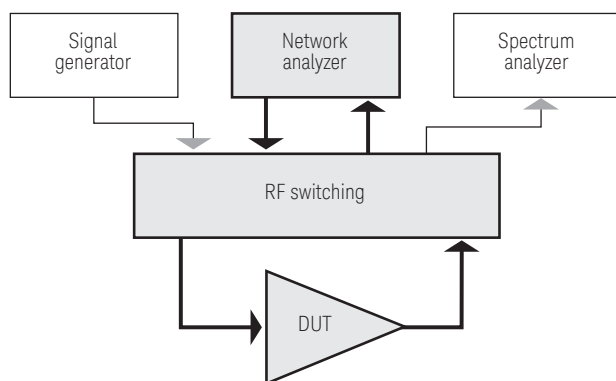

Figure 3. Network-analyzer paths to and from the DUT
Network-analyzer paths are those that connect a network analyzer to the DUT. A vector calibration enables the network analyzer to precisely measure the complex-valued S-parameters that fully describe changes in magnitude and phase versus frequency. S-parameter measurements of the DUT are made using a swept continuous wave (CW) signal generated by the network analyzer (Figure 3).